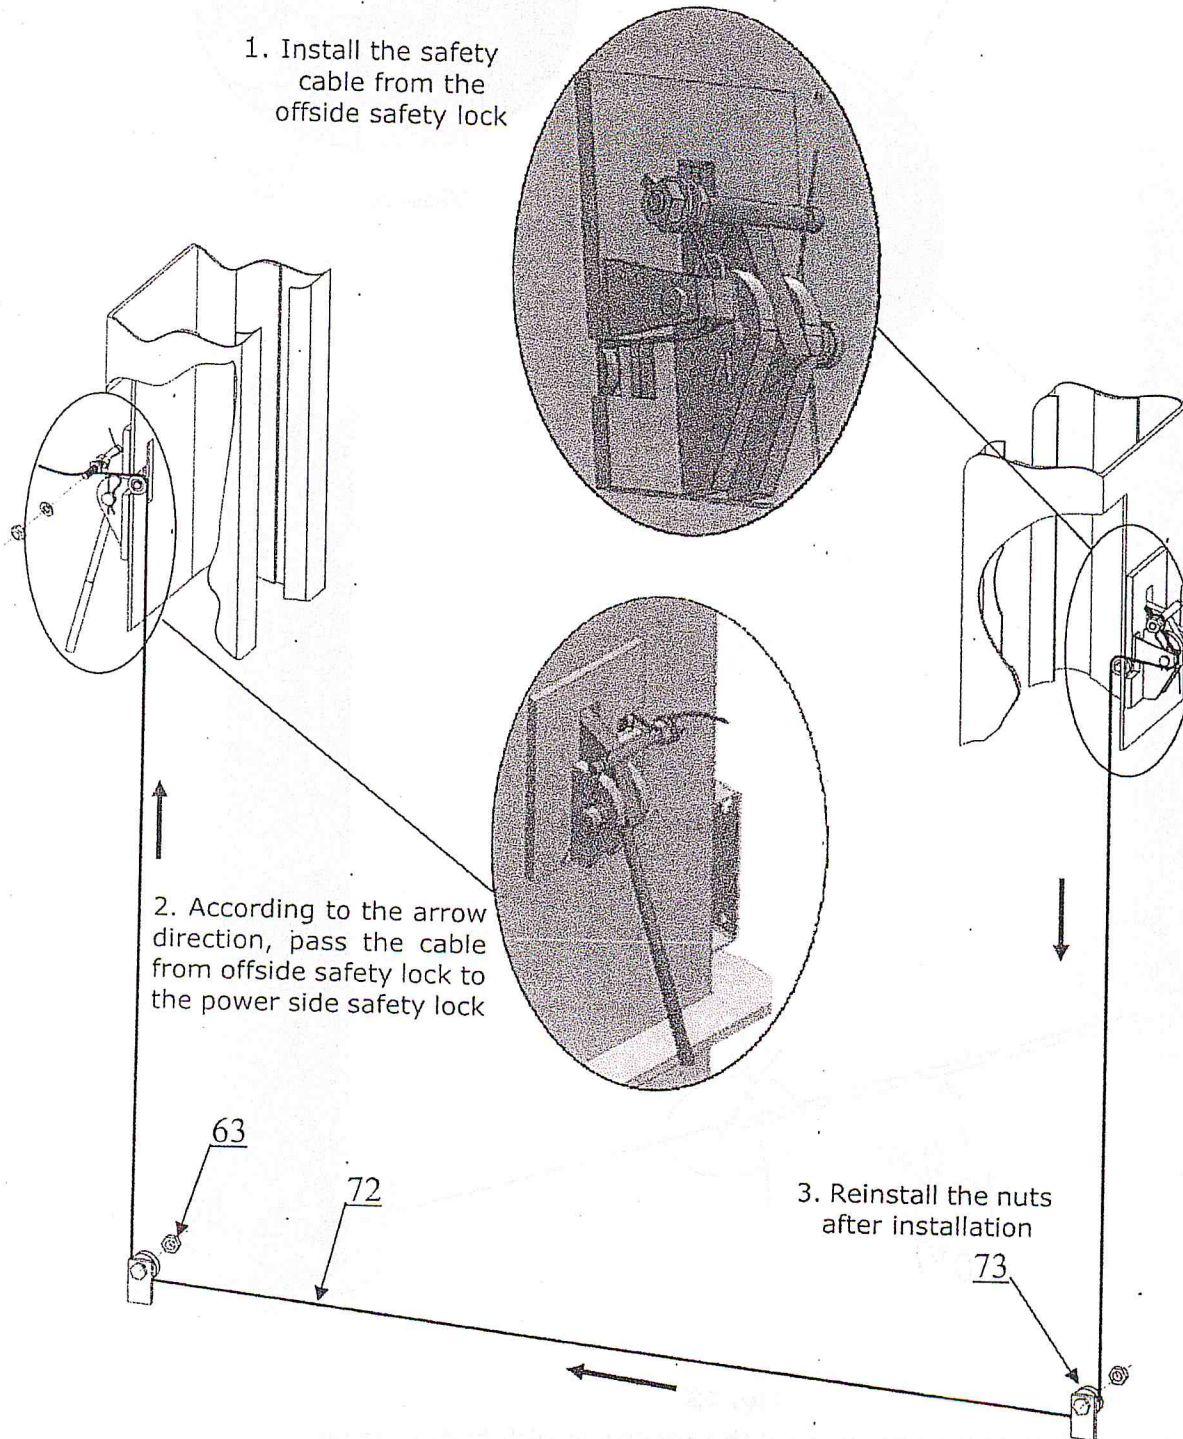

Fig. 22
J. Install the cable on the safety locks (See Fig. 22).